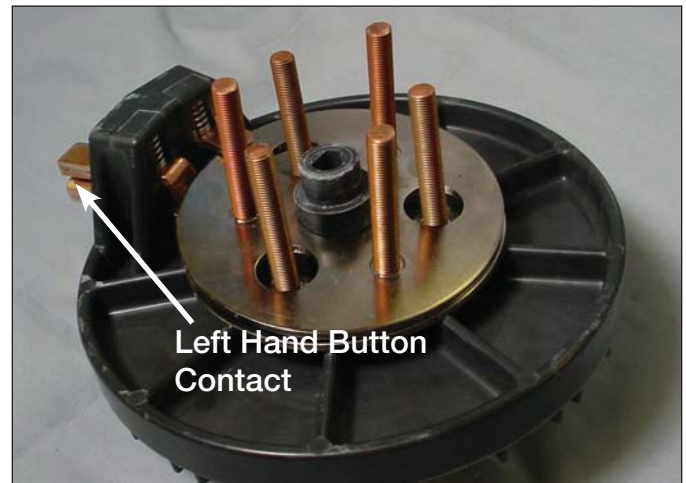

Figure 26.
- Align the stud of the slip rings with the mounting holes in the contact panel. The studs on the slip ring that is between the left hand lower button contact (Figure 26) will go into the holes that have the higher shoulder spacer as part of the contact panel. See Figure 27.